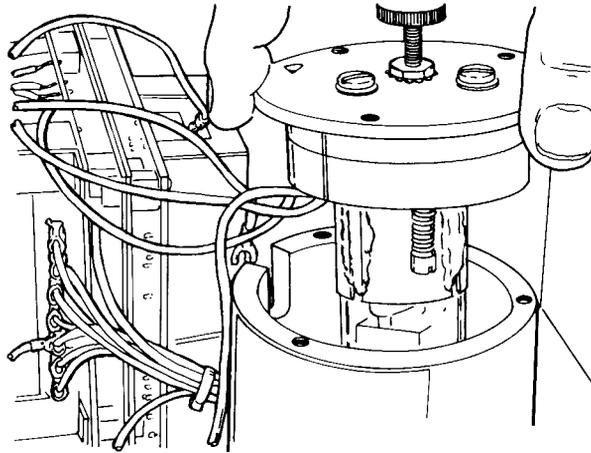

Figure 5-13 Removing the Lamp
4. Pull the lamp assembly out of the lamp housing (Figure 5-13).
Figure 5-13 illustrates the lamp assembly removal procedure.